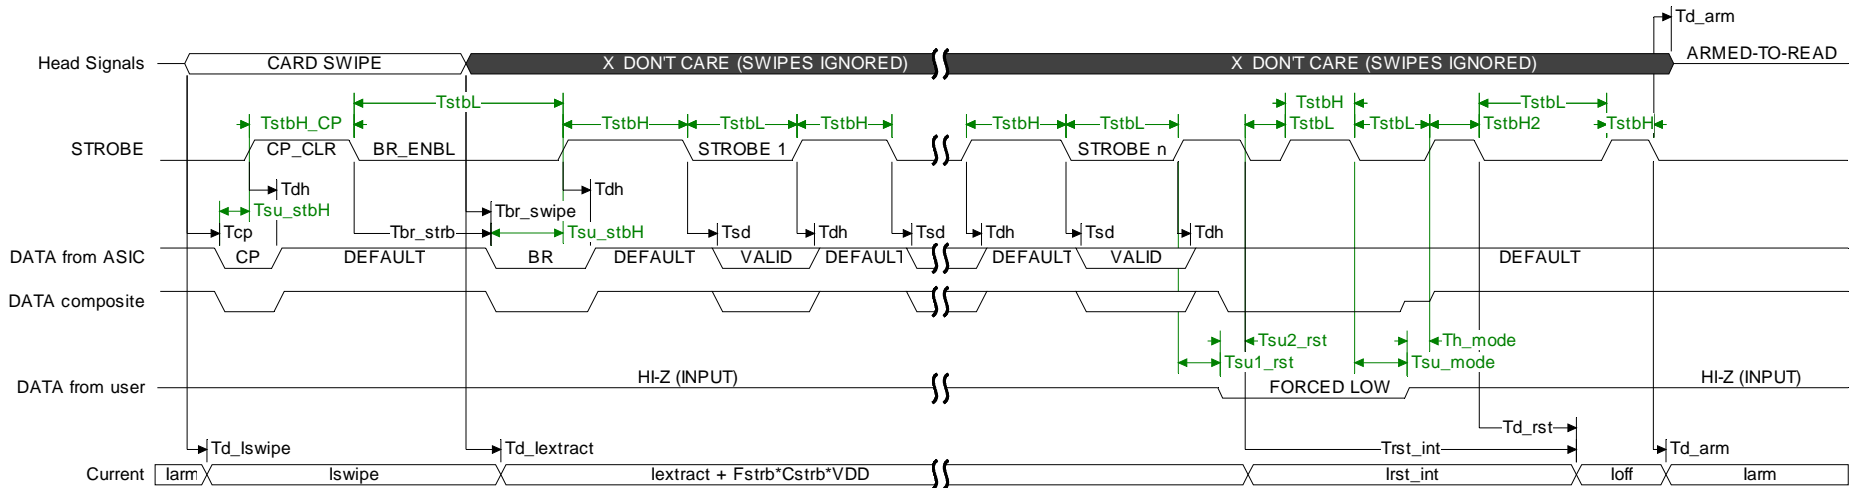

**Figure 1. Timing and Current Consumption – New Mode Reset and Armed-to-Read Sequence Only; Showing the OFF State**
A transient current of 1mA maximum, not shown in timing diagrams, may exist for the duration of  $T_{d\_arm}$  (Figures 1 and 3 only).
***Td\_arm*** (Delay for Arm) = 110  $\mu$ s maximum (Figures 1 and 3 only)